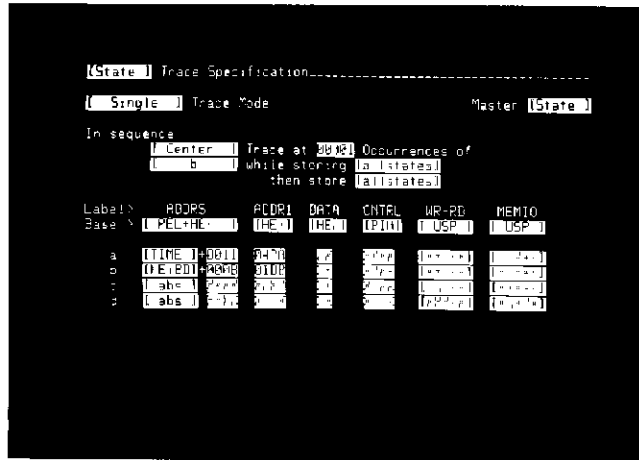

Figure 3-30. State Trace Specification With Trigger In Row "b"
5. Enter the module name and offset value you copied from the screen (use keyboard NEXT[]) and hexadecimal keys). See figure 3-30.